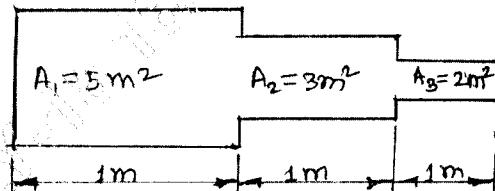

Fig.Q8(b)
- b. For the smooth pipe of variable c/s shown in Fig.Q8(b). Determine the potential at the junction the velocities in each section of pipe and the volumetric flow rate. The potential at the left end is  $P_1 = 12 \text{ m}^2/\text{s}$  and that at right end is  $P_4 = 3 \text{ m}^2/\text{s}$ . Take  $K_x = 1$ . (10 Marks)